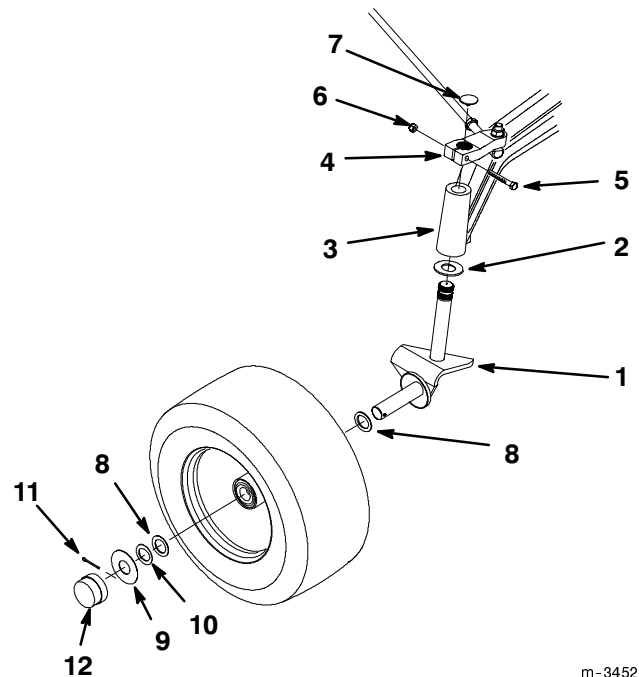

Figure 4
3. Install a 1.56" O.D. x .06" thick unplated thrust washer onto the splined shaft of the R.H. wheel spindle (Fig. 4).
4. Install the splined end of the R.H. spindle through the R.H. end of the front axle and into the steering arm (Fig. 4).
5. Secure the spindle shaft to the steering arm with a 5/16"-18 x 2.25" bolt and 5/16" nut (Fig. 4). Torque the nut to 230 ± 25 in-lbs.
6. Insert a 1.50" O.D x .05" thick plated wheel washer onto the R.H. spindle (Fig. 4).
7. Install a front wheel onto the R.H. spindle with the valve stem facing inward (Fig 4).
8. Insert another 1.50" O.D x .05" thick plated wheel washer onto the R.H. spindle (Fig. 4).
9. Install a 2.50" O.D x .05" thick hub cap washer onto the spindle. Now insert a .156 x 1.50" long cotter pin into the hole in the spindle (Fig. 4).
12. Install a hubcap onto the hubcap washer until it snaps in place (Fig. 4).
14. Insert a spindle cap into the steering arm (Fig. 4).